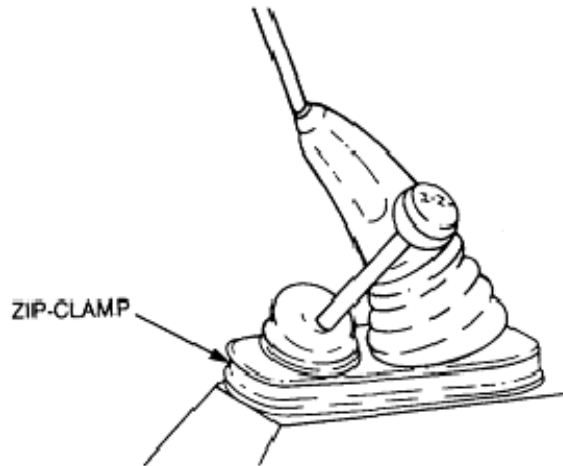

Figure 59 Gear Lever Rubber Boot Removal
- a. Remove the zip-clamp securing the rubber boot to the transmission tunnel cover (Figure 59).